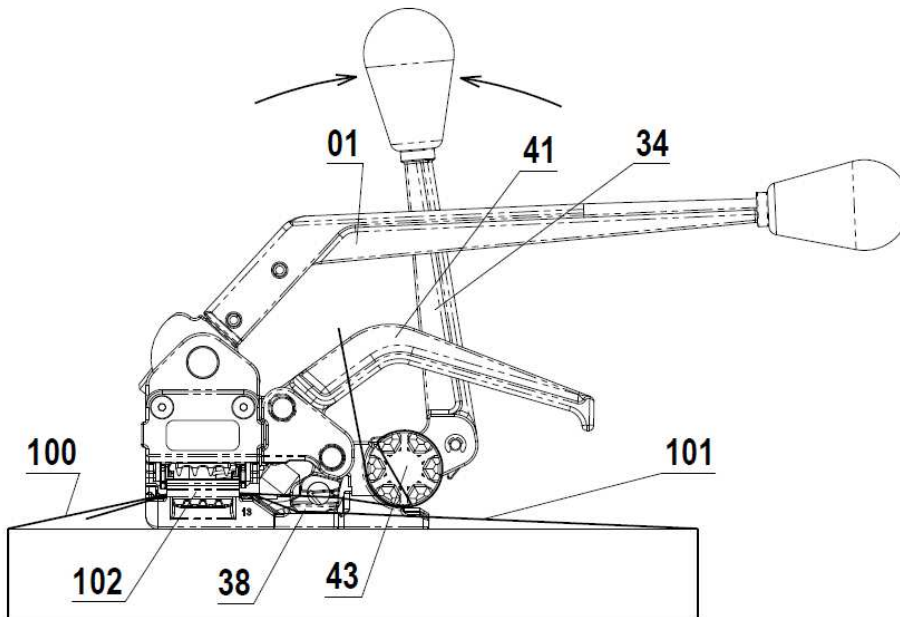

Fig. 5
4. Apply tension by ratcheting **Tension Handle 34** as shown on Fig. 5.